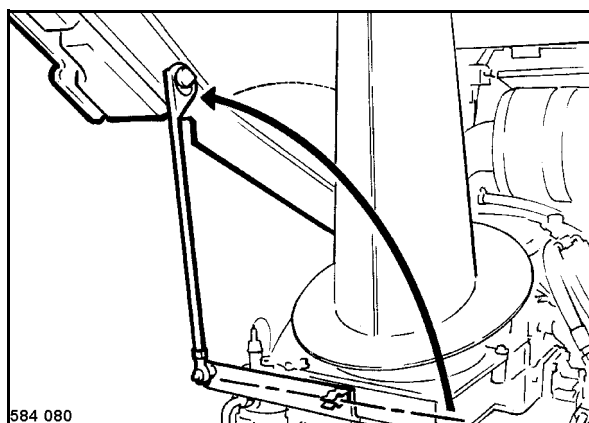

Fig. 74
- Pull the support out of the bracket and support the hood (Fig. 74).